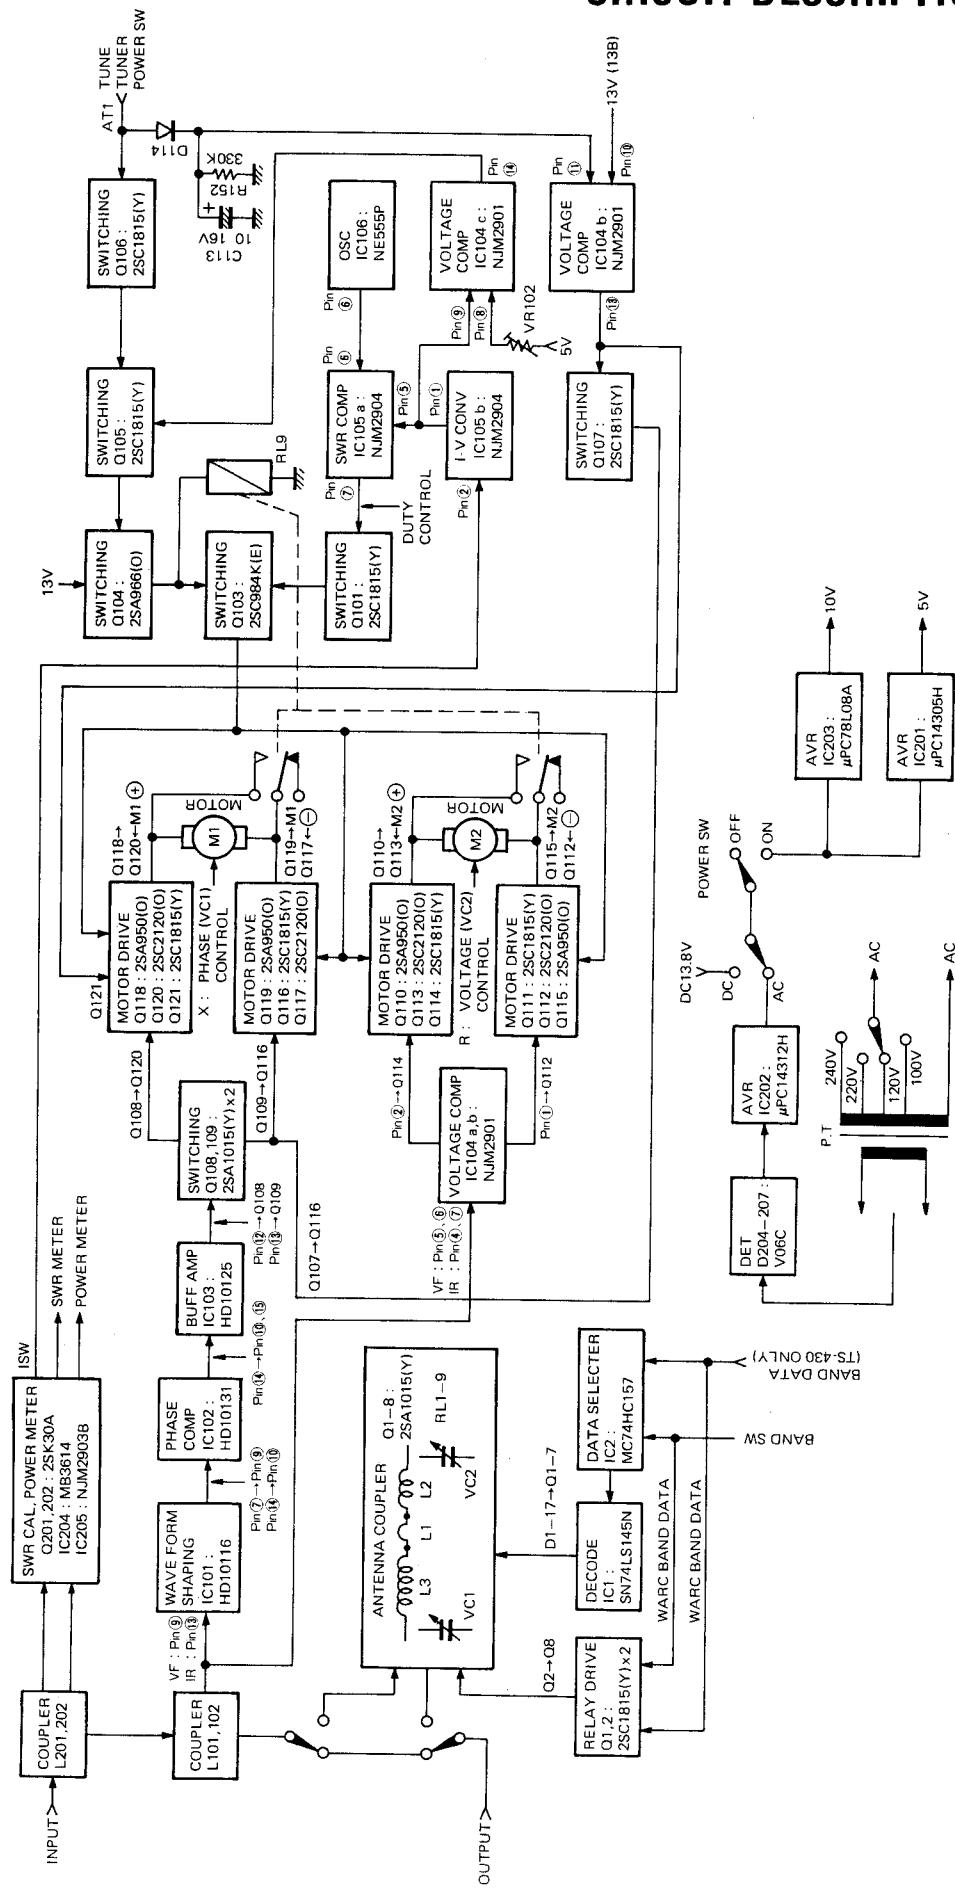

Fig. 1 Block diagram
A block diagram of the AT-250 is shown in **Fig. 1**. The AT-250 covers all HAM bands from 1.8MHz to 29MHz. When the TUNER and TUNE switches are turned ON and the companion TS-430 transceiver is placed in the transmit mode, both forward and reflected power are detected by directional coupler L201 and L202, which appears between the Control unit (B) (X53-1360-00) IN and OUT terminals. Forward and reflected power is also detected by directional coupler L101 and L102, located between the Control unit (A) ANI and ANT terminals. The former coupler is used to drive the SWR meter and the RF power meter (20W and 200W). The directional couplers are toroidal core transformers ; these provide superior characteristics within the 1.8 to 30MHz HF range.